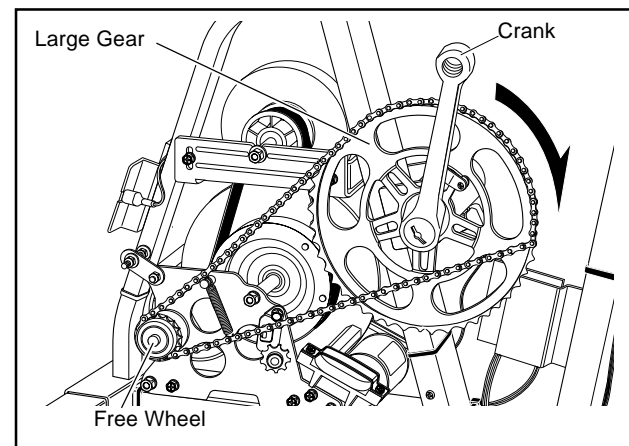

Fig. 3
4. The brandnew chain should be hung firstly on the free wheel, and then hang it over the upper part of the large gear. A forward rotation of the crank will allow complete setting of the entire chain. (Fig. 3)